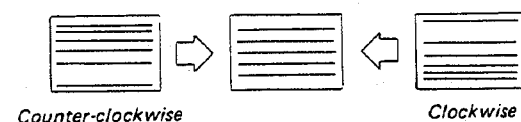

Fig. 28-2
3. Adjust the balance of V lineality with V.L.B (RV9) on the D board as shown in Fig 28-2.